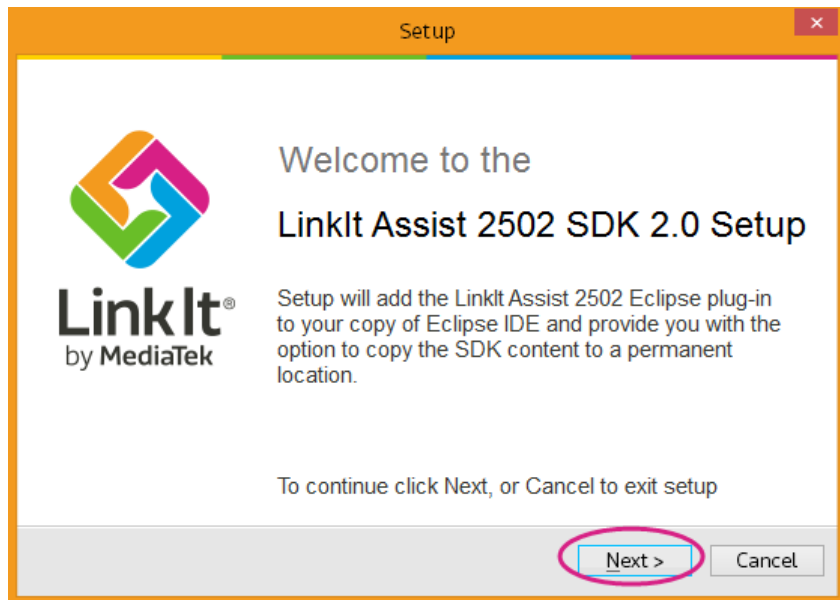

Figure 7 The welcome page of the SDK setup wizard.
5) In the Welcome page, Figure 7, click **Next**.